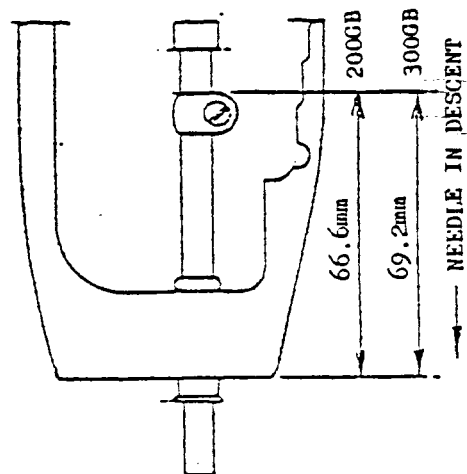

Fig. 24
2. Turn machine pulley over toward front of machine until the needle bar go beyond its upper dead center and descends to the point shown in Fig. 24.